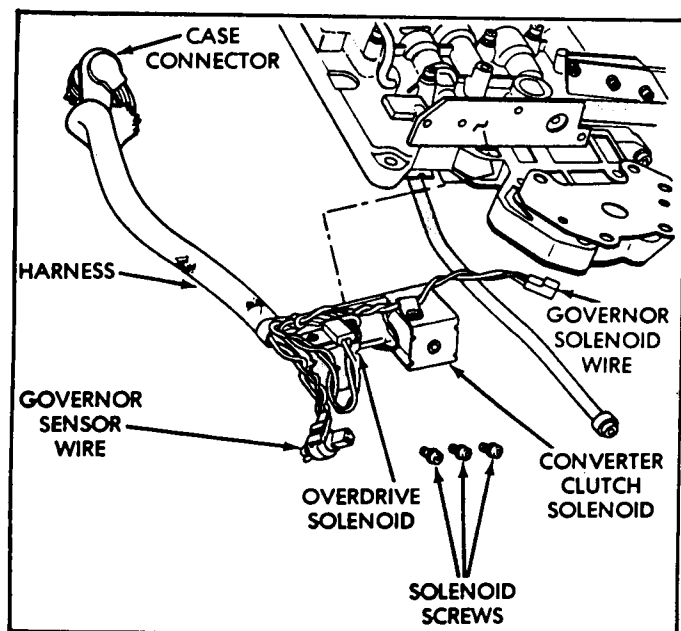

Figure 113
50. Install Overdrive/Converter solenoid gasket on upper housing and retain with Trans-Jel (See Figure 113).